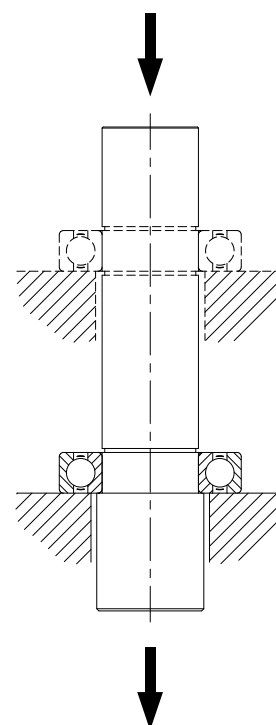

Figure 8.1
- Remove the marine propeller (02) from the agitator shaft (05), unscrewing the allen studs (55).
- Remove the agitator shaft (05) from the half-shaft (26) through the allen studs (55A).
- Remove the hexagonal screws (52) and flat washers (53) and take out the motor (93).
- Remove the countersunk screws (50). Hit the upper part of the half-shaft (26) with a nylon hammer and take out the unit formed by the half-shaft (26), ball bearing (70), base plate (42), lip seal (88) and bearing stop ring (31).
- Once in the outside of the bearings support, remove the base plate (42) from the half-shaft (26) and with the aid of a nylon hammer remove the lip seal (88).
- Take off the elastic ring (66) with a suitable pliers and remove the ball bearing (70) with a press. See figure 8.1
- On the sawtooth propeller (02), remove the hexagonal screw (52A). Once extracted it, leave the propeller bucket (02A) with the dragging pivots (02C), the sawtooth propeller (02) and the washer (02B).
- Remove the hexagonal screws (52) and flat washers (53), and take out the motor (93).
- Remove the countersunk screws (50). Hit the upper part of the agitator shaft (05) with nylon hammer and take out the unit formed by the agitator shaft (05), ball bearings (70, 70A), base plate (42), lip seal (88) and bearing stop ring (31).
- Once in the outside of the bearings support, remove the base plate (42) from the agitator shaft (05) and with the aid of a nylon hammer remove the lip seal (88).
- Take off the elastic ring (66) of the upper ball bearing with suitable pliers and remove the upper ball bearing (70A) with a press. Then, remove the other elastic rings (66) and proceed to disassembly the bottom ball bearing (70) with a press. See figure 8.1.